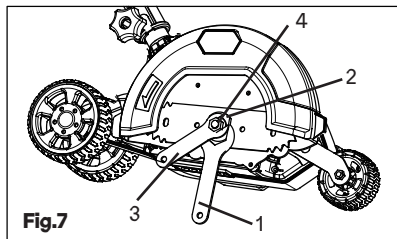

Fig.7
3. Use one wrench (1) to hold the outer flange (2) steady, and use second wrench (3) to loosen the flange nut (4) (see Fig. 7).